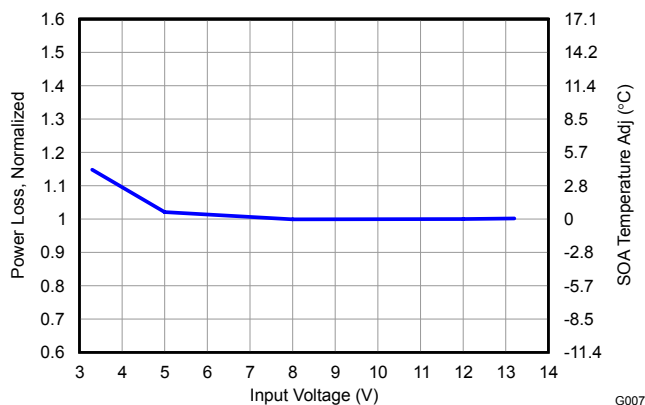

Figure 13. Normalized Power Loss vs Input Voltage
- Normalized Power Loss for input voltage ≈ 1.07 (Figure 13)
- SOA adjustment for input voltage $\approx 0.1^{\circ}C$ (Figure 13)